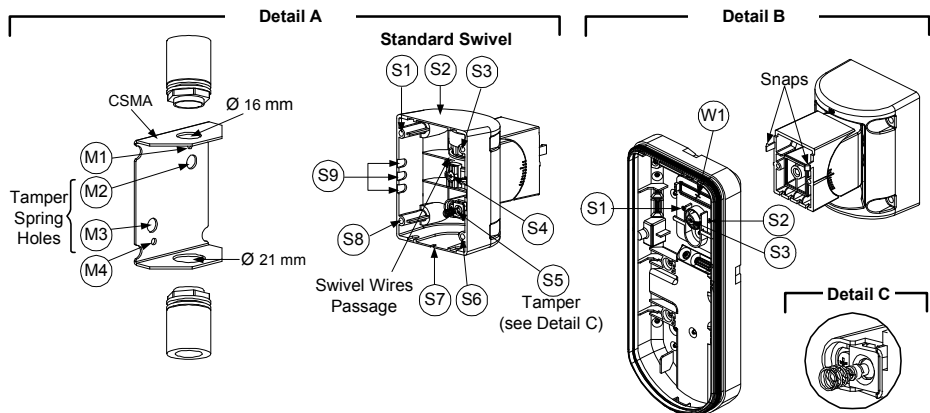

Figure 7
3. Open knockouts on external base (Figure 7, Detail B)
4. On the swivel accessory remove the required swivel cable wiring knockout S2, S7 or S9 (Figure 7, Detail A).
5. Remove back tamper from the internal base (see “Changing Back Tamper Position” paragraph) and connect it to S5 (Figure 7, Detail A) on the Standard Swivel.
- a. Insert external cable wiring through knockouts S2, S7 or S9 and extract them (including the tamper wires) through the Swivel Wires Passage (Figure 7, Detail B).
**Swivel Conduit Mounting (using optional Conduit Metal Swivel Adaptor – CSMA, Figure 7, Detail A)**
- d. Insert external cables and tamper wires from the conduit through the swivel wires passage of the swivel (Figure 7, Detail A).
The Tamper spring S5 (Figure 7) should make contact with the wall through the tamper spring holes M2 or M3 on the CSMA. Make sure to hear the tamper "Click" when connecting to the wall.
7. Insert tamper wires and external cable wiring from Standard Swivel through knockout W1 on the external base (Figure 7, Detail B).